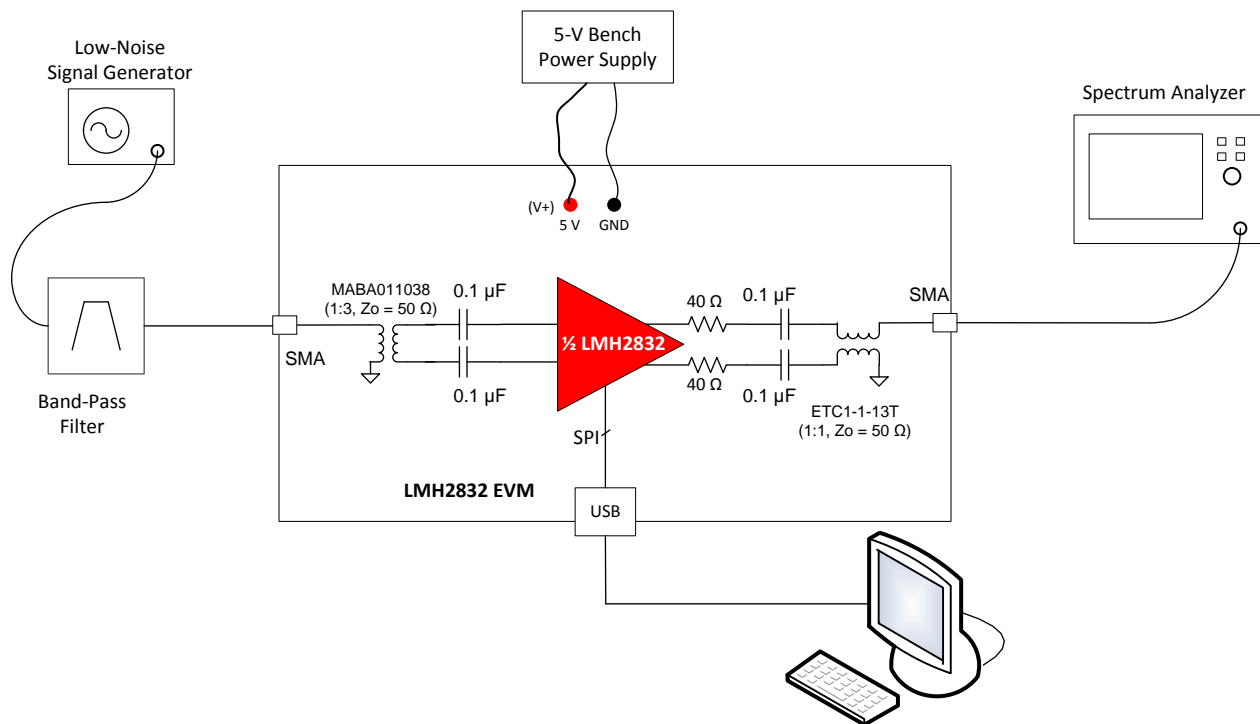

Figure 2. LMH2832 Evaluation Board Setup Block Diagram
Figure 2 illustrates the LMH2832 evaluation board setup block diagram.
2. While the supplies are turned OFF, connect the evaluation board power supply pins (V+ and GND) to the bench power supply of 5 V and GND, as shown in Figure 2, using a low-noise bench power supply.
1. The LMH2832EVM-50 evaluation board provides the customer flexibility in testing at different input frequencies using on-board input and output baluns as shown in Figure 2.
1. The LMH2832EVM-50 evaluation board has SMA connectors at the output and can be directly connected to 50- Ω test equipment as shown in Figure 2.